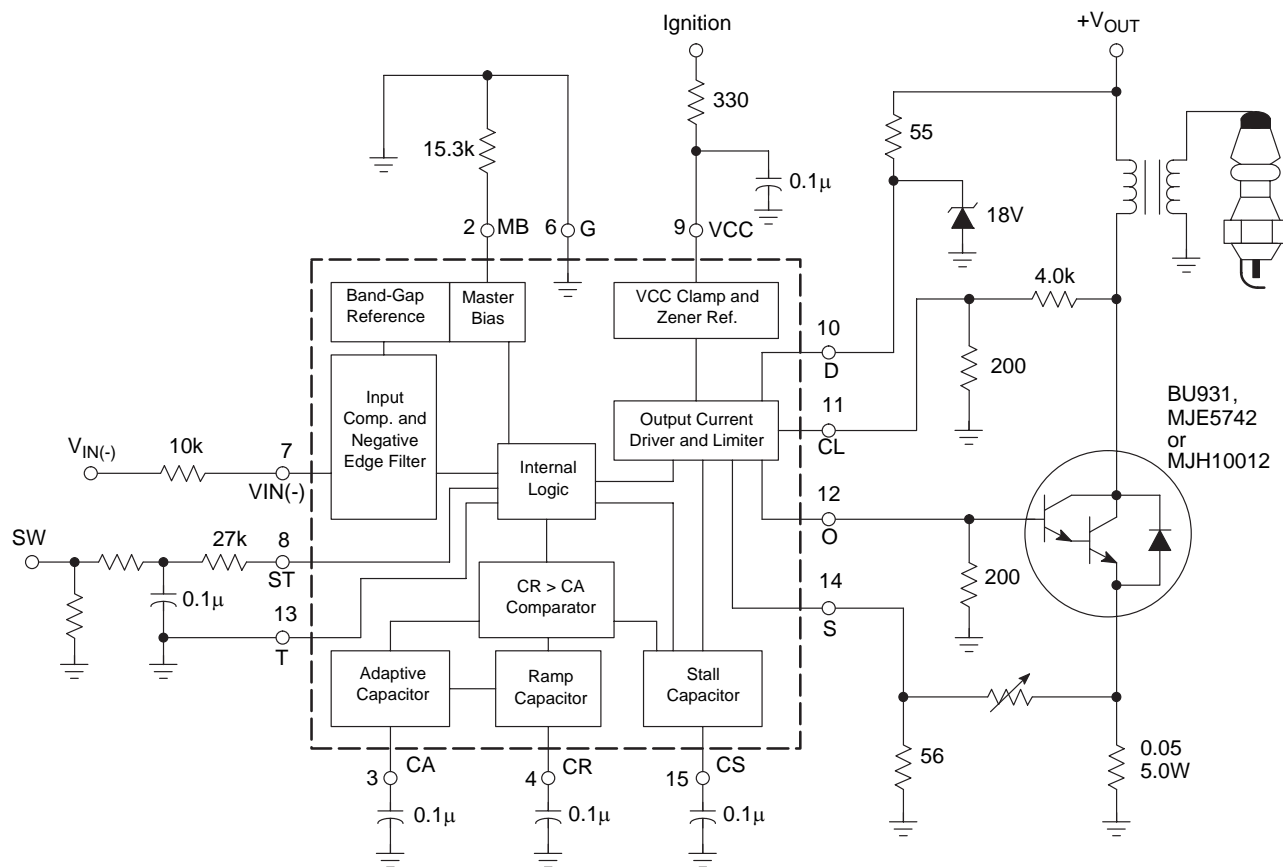

Figure 13. Typical Ignition Circuit Application
The device, a bipolar linear integrated circuit, is built using high-density Integrated-Injection Logic (IIL) processing incorporating high current-gain PNP and NPN transistors. All module inputs are transient voltage protected through the use of resistors, capacitors, and/or zener diodes working in conjunction with internal protection elements. These elements provide protection of critical circuitry from externally induced high-voltage transients which may degrade the devices operational performance. At the module level, it is recommended that the VCC pin of the device be transient decoupled using an external resistor and capacitor to work in conjunction with the on-chip internal zener string to provide robust module protection of the device power pin. The D (Distributor Signal) input of module should be protected from transients through the use of an external resistor and zener diode. The Start input (ST) of the module should be decoupled through the use of two resistors and a capacitor to work in conjunction with the on-chip internal clamp (Figure 13).
See Figure 13. In the Stall mode the output is slaved by the stall capacitor. The stall capacitor can discharge completely, but starting at point X it charges during the 25% of the engine cycle (duration of when ZC is logic high = 1). At the same time a spark from the previous cycle occurs. The DWELL signal will be high as long as the engine is in stall, but falls gradually preventing a spark at point Y when the STALL goes low starting at 2.4V. The coil will be slaved to the stall capacitor, and at point Z the coil will charge to 6.5 amps as the stall capacitor charges to 2.0V. At that time the STALL comparator will trip (STALL = 0) and the DWELL signal will fall, triggering a reduced spark with some retardation (6.5ms). At this point a new cycle begins.
robust module protection of the device power pin. The D (Distributor input) input of module should be protected from transients through the use of an external resistor and zener diode. The Start input of the module should be decoupled through the use of two resistors and a capacitor to work in conjunction with the on-chip internal clamp (Figure 13).